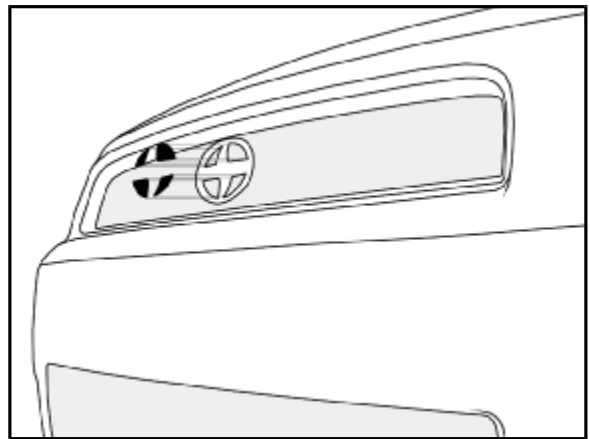

Fig. G1
- ⚠ B. Align part uniformly to edge of factory components. Edge of appliqué should be flush to edge of factory component, ±1.0mm. (Fig. G1).